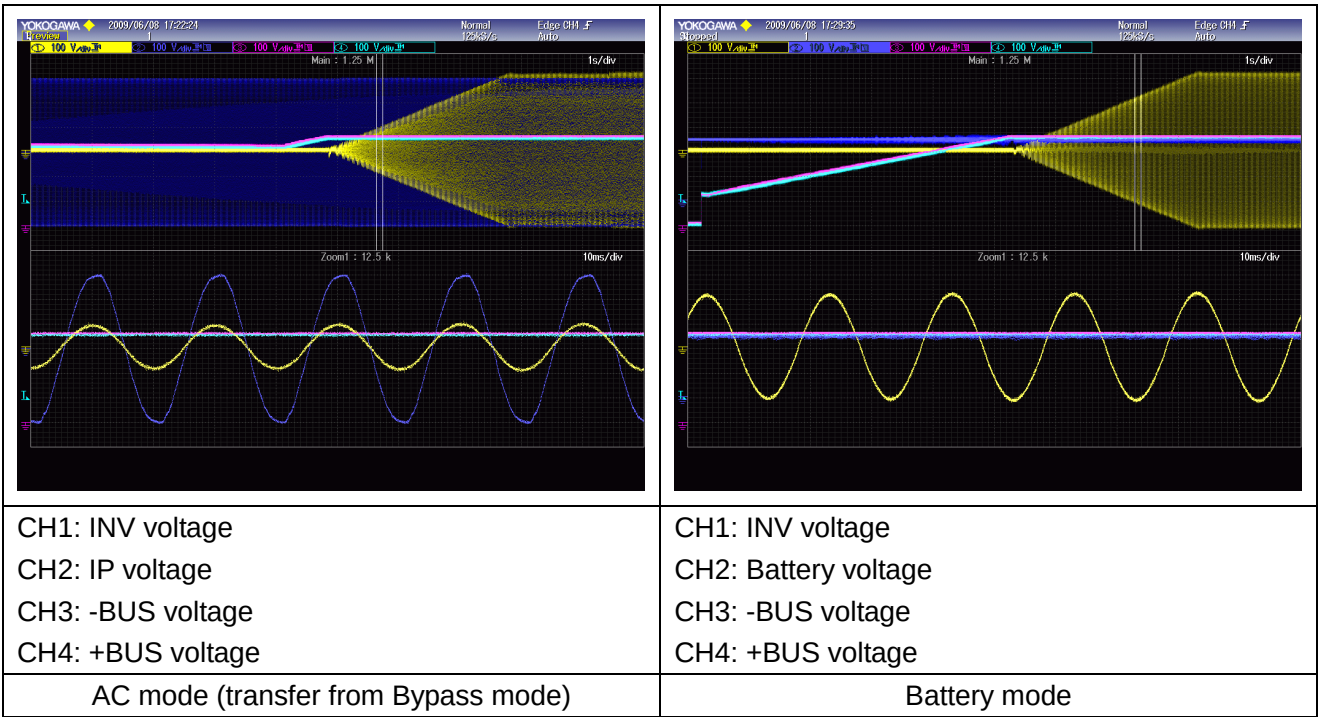

Figure 9.2 Turn on the UPS
Step3: Press the "ON" button to set up the power supply for the UPS, UPS will enter to power on mode. After initialization UPS will enter to No Output mode, then Press and hold the "ON" button for 0.5s to turn on the UPS, and the buzzer will beep once. A few seconds later, the UPS will be turned on and enter to Battery mode. (You can measure the BUS voltage at the BUS capacitances terminal and the inverter voltage at the out put terminal, the voltage between +BUS and N, N and -BUS is about 370V DC, the inverter voltage is about 230V AC, you can refer to the waveform of **Figure 9.2)**